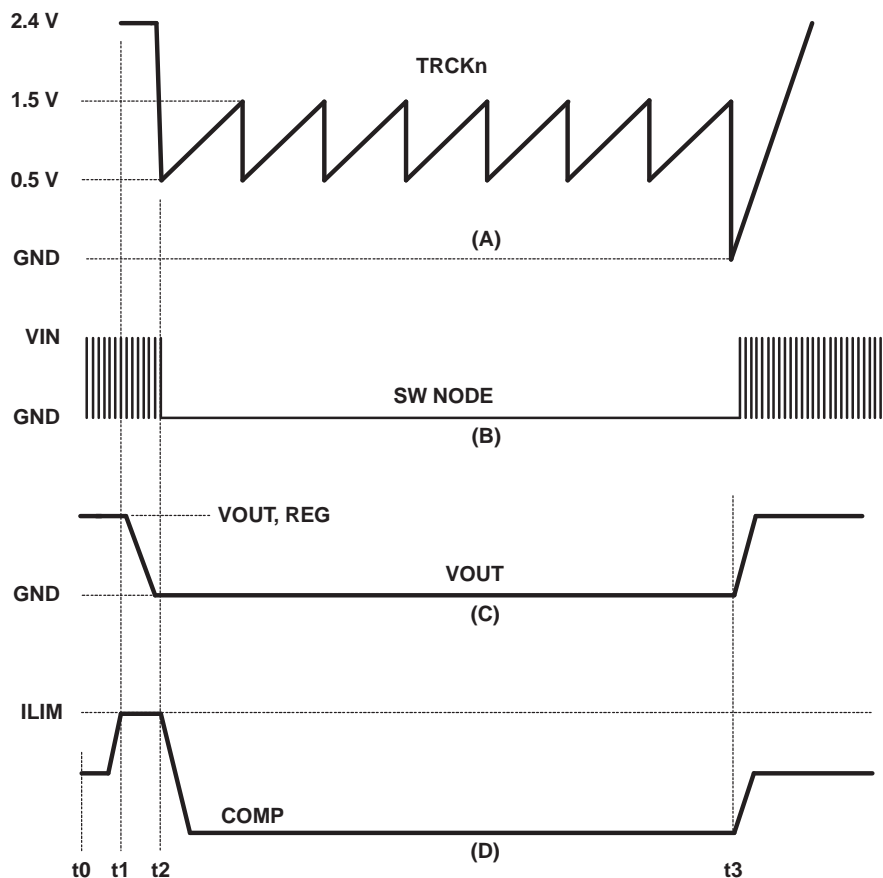

Figure 5-9. Hiccup Mode and Recovery
In order to reduce the input current and component dissipation during on overcurrent event, a hiccup mode is implemented. Hiccup mode refers to a sequence of 7 soft-start cycles where no MOSFET switching occurs and then a re-start is attempted. If the fault has cleared, the re-start results in returning to normal operation and regulation. This is shown in Figure 5-9.
In Figure 5-9, normal operation is occurring between t_0 and t_1 as shown by V_{OUT} being at the regulated voltage, () and normal switching on the SW NODE (B) and COMP at it's nominal level, (D). At t_1 , an overcurrent load is experienced. The increased current forces COMP to increase to the ILIM level as shown in (D). If the COMP voltage is above the ILIM voltage for 7 switching cycles, the controller enters a hiccup mode. During this time the controller is not switching and the switching MOSFETs are turned off. The TRKx voltage goes through 7 cycles of charging and discharging the soft-start capacitor. At the end of the 7 cycles the controller attempts another normal re-start. If the fault has been cleared, the output voltage comes up to the regulation level as shown at time t_3 . If the fault has not cleared, the COMP voltage again rises above the ILIM voltage and the hiccup mode repeats.